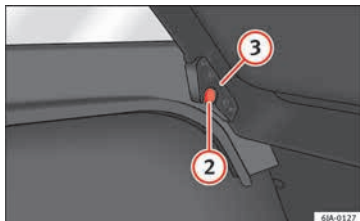

Fig. 166 Remove the shelf.
- Adjust the shelf supports ③ »» Fig. 166 to fit the supports ② in the trim.
- Attach the straps ① to the tray.
- The shelf supports ③ »» Fig. 166 must be securely in place in the trim supports ②.